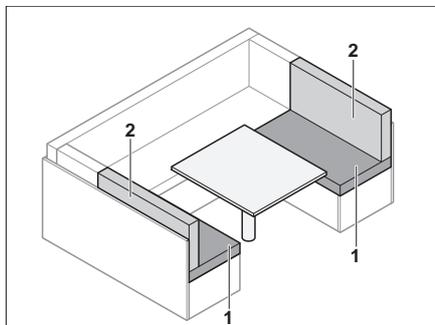

Fig. 75 Prior to conversion
- Remove the back cushions (Fig. 75,2).